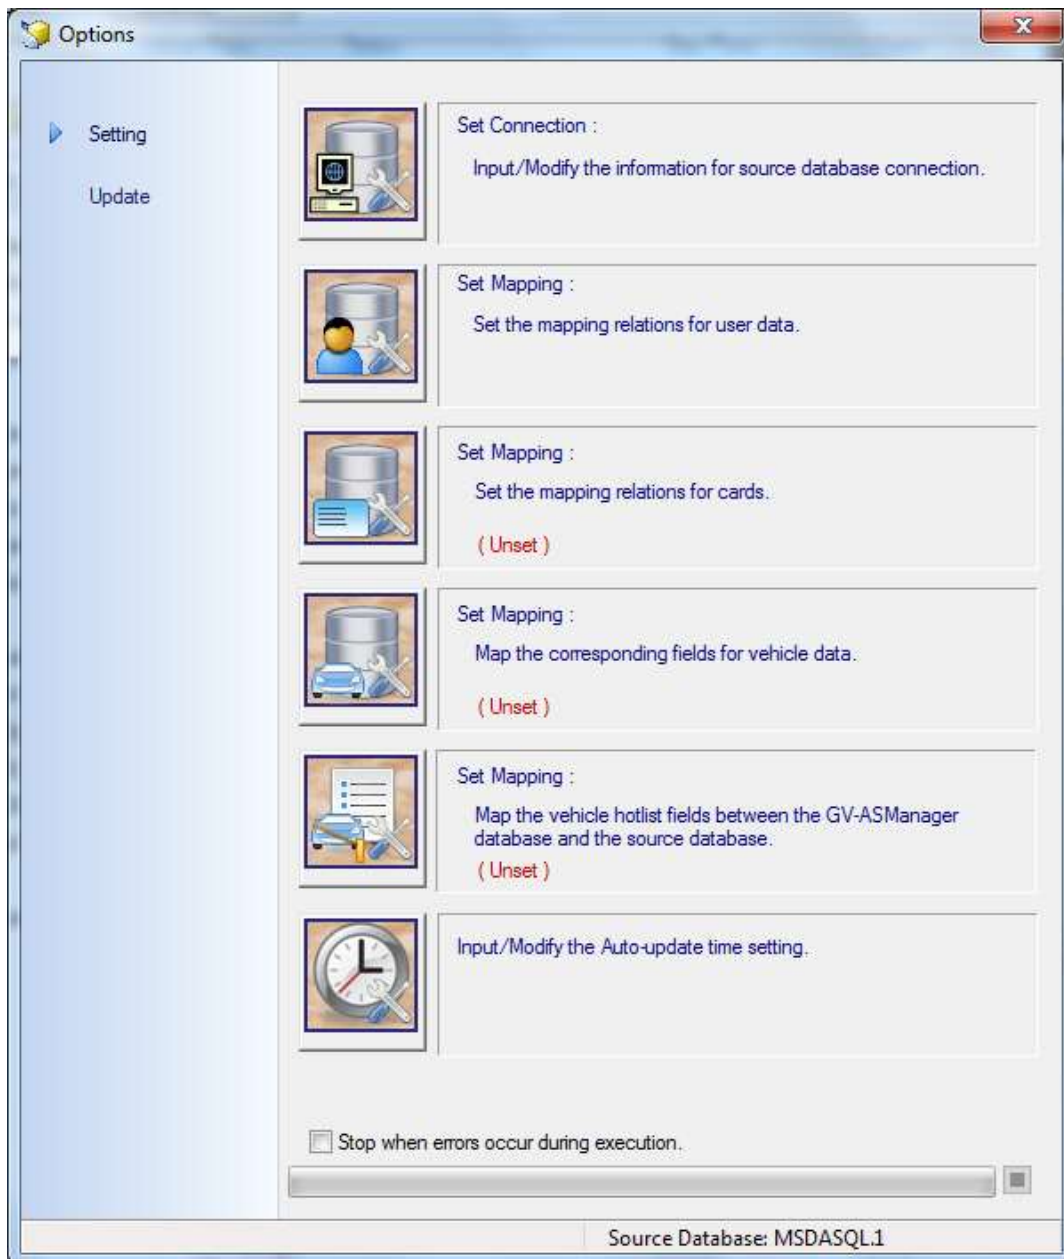

Figure 17-3
1. Click the **Set Connection** button on the Options dialog box (Figure 17-3). The Source Database dialog box appears.
7. Click the **Update Cardholder Data manually** button in the Options dialog box (Figure 17-3) to convert the cardholder data from the source database to the GV-ASManager database immediately.
8. Click the **Update Card Data manually** button in the Options dialog box (Figure 17-3) to convert the card data from the source database to the GV-ASManager database immediately.
9. To update the database automatically later, click the **Input/Modify the Auto-update time setting** button in the Options dialog box (Figure 17-3) and specify the time in minutes.
1. Click the **Set the mapping relations for user** button in the Options dialog box (Figure 17-3). This window appears.
1. Click the **Set the mapping relations for cards / vehicles** button in the Options dialog box (Figure 17-3). This window appears.
1. Click the **Update Cardholder Data manually** button in the Options dialog box (Figure 17-3) to convert the cardholder data from the source database to the GV-ASManager database immediately.
2. Click the **Update Card Data manually** button in the Options dialog box (Figure 17-3) to convert the card data from the source database to the GV-ASManager database immediately.
3. To update the database automatically later, click the **Input/Modify the Auto-update time setting** button in the Options dialog box (Figure 17-3) and specify the update time.